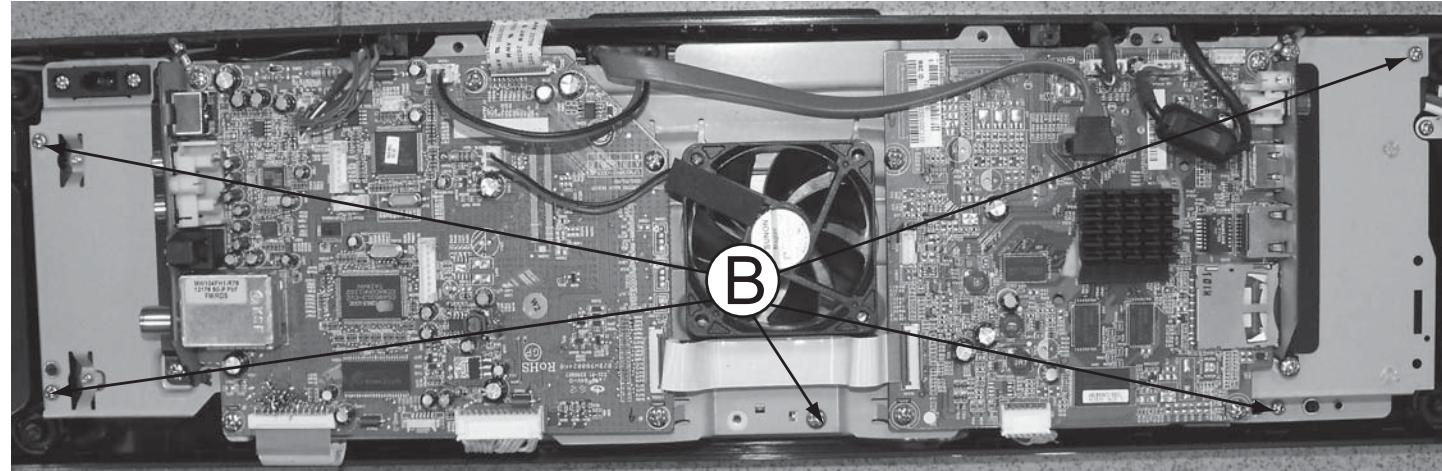

Figure 2
- 2) Loosen 5 screws "B" to remove the PCBA brackets assembly as shown in figure 2.